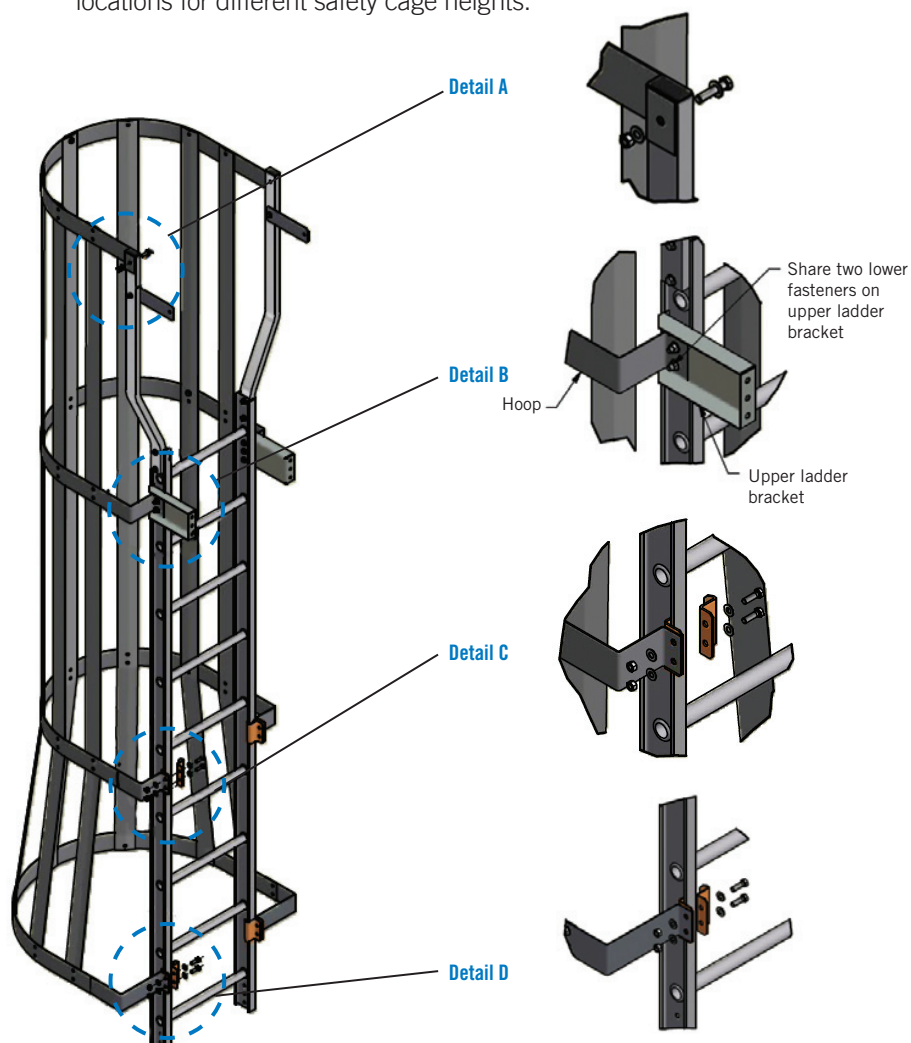

Figure 16. Safety Cage
2. Bolt the safety cage to the ladder using flatwashers and locknuts. Orient all fasteners with bolt heads inside safety cage. See **Figure 16. Detail A through D** and refer to **Table 2** for the quantity of bolting locations for different safety cage heights.